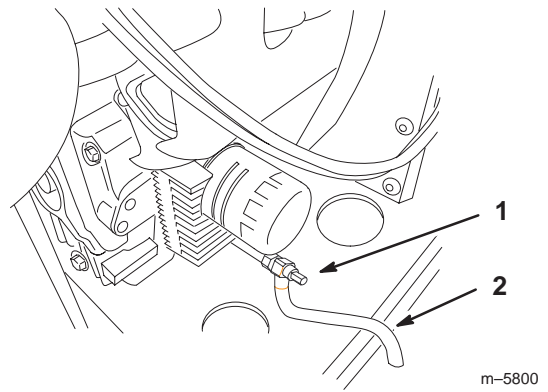

Figure 39
3. Place hose onto oil drain valve to direct oil into drain pan (Fig. 39).
4. Place a pan below the drain hose. Rotate oil drain valve to allow oil to drain (Fig. 39).
6. Remove the drain hose. Place hose in a notable place for future use (Fig. 39).